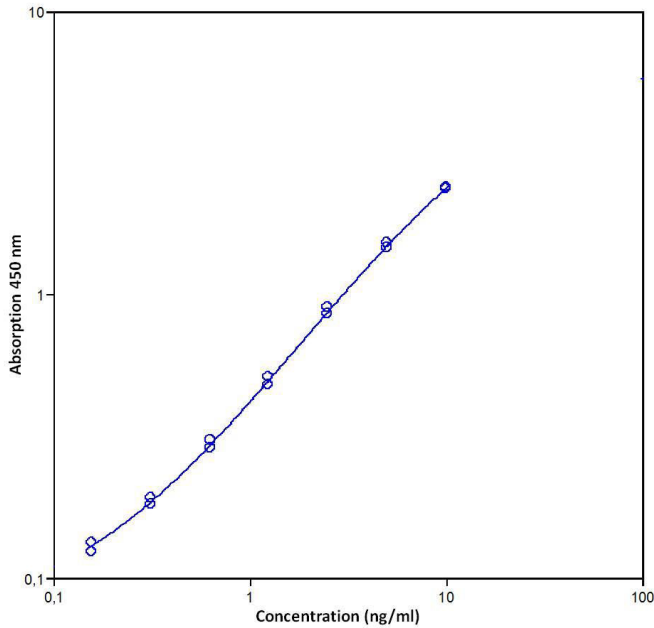

Fig. 8 Representative standard curve for human VEGF-R1 ELISA. Human VEGF-R1 was diluted in serial 2-fold steps in Assay Buffer (1x).
- A representative standard curve is shown in Figure 8.